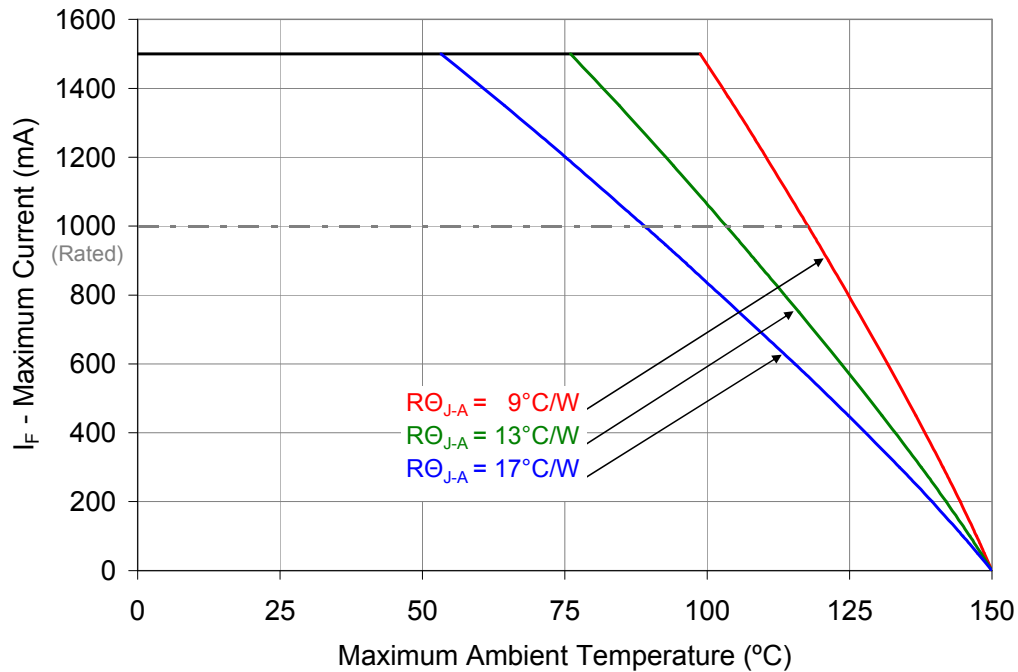

Figure 10: Maximum forward current vs. ambient temperature based on  $T_{J(\text{MAX})} = 150^\circ\text{C}$ .
- Maximum DC forward current is determined by the overall thermal resistance and ambient temperature. Follow the curves in Figure 10 for current derating.
Notes for Figure 10: